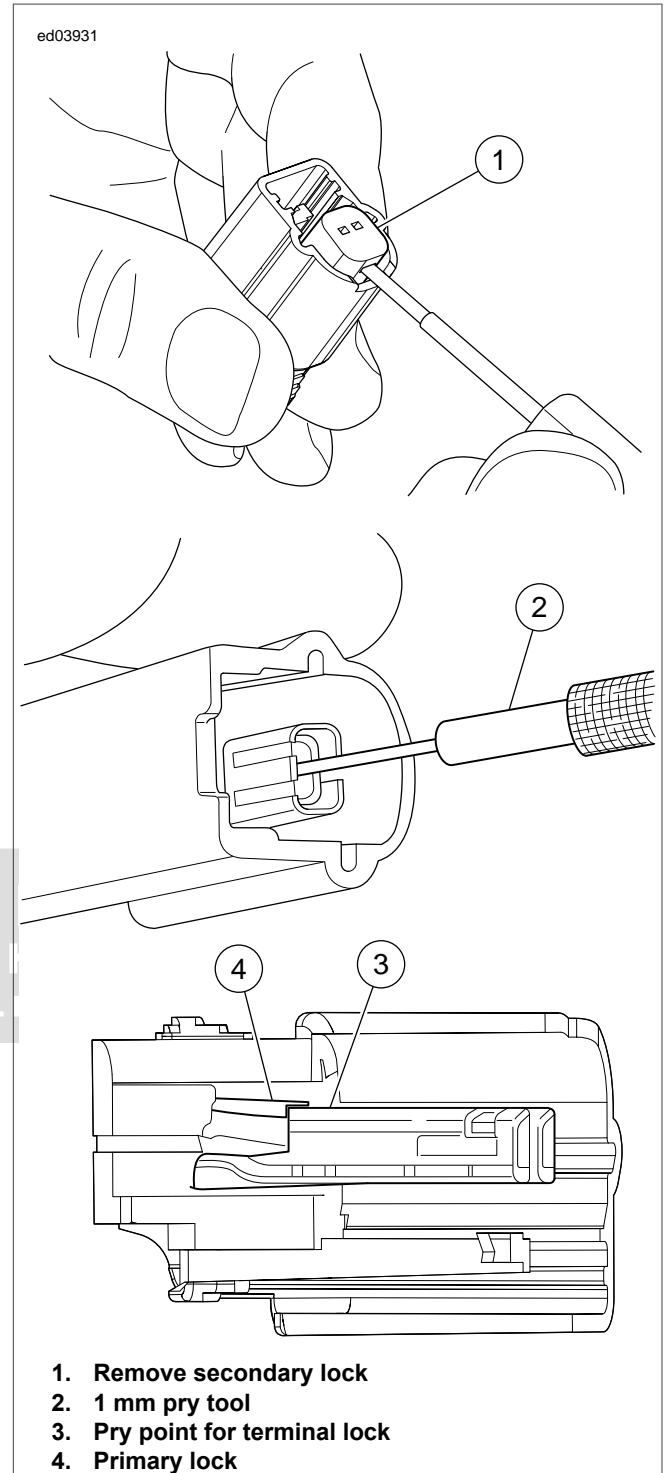

Figure B-28. Removing Terminals in MX64 Series Connector
1. See Figure B-28. Using a small blade screwdriver pry up on the secondary lock and remove.